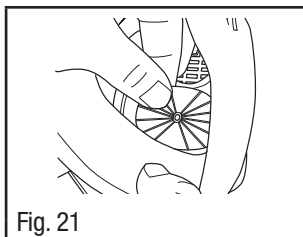

Fig. 21
1. Remove inhalation valve by grasping valve and pulling valve off the center post (Fig. 21).